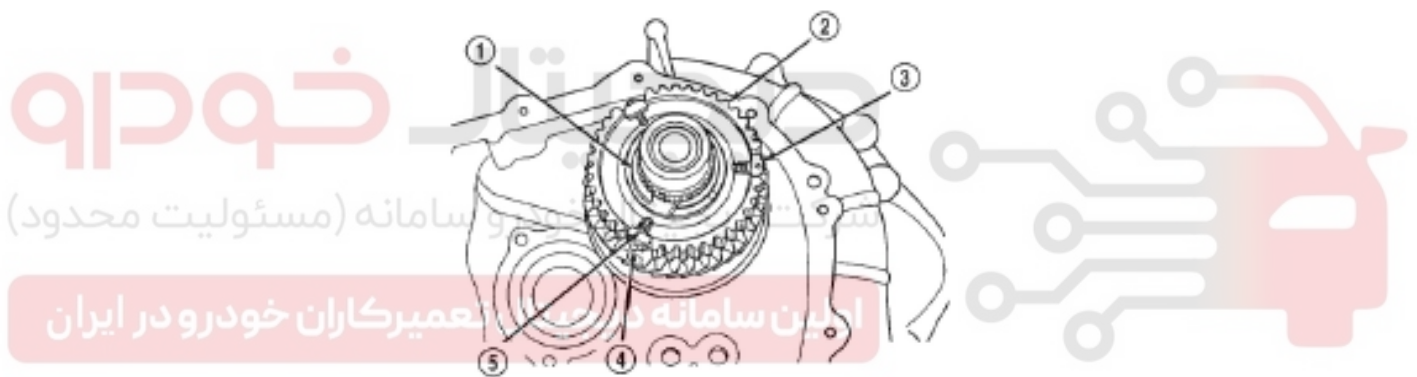

Figure 3-162 Spline on gear hub
(5) Place spline and spring in a proper manner to cover the three splines of gear hub (Figure 3-162), assemble and push the snap ring, then align the spline and ball.